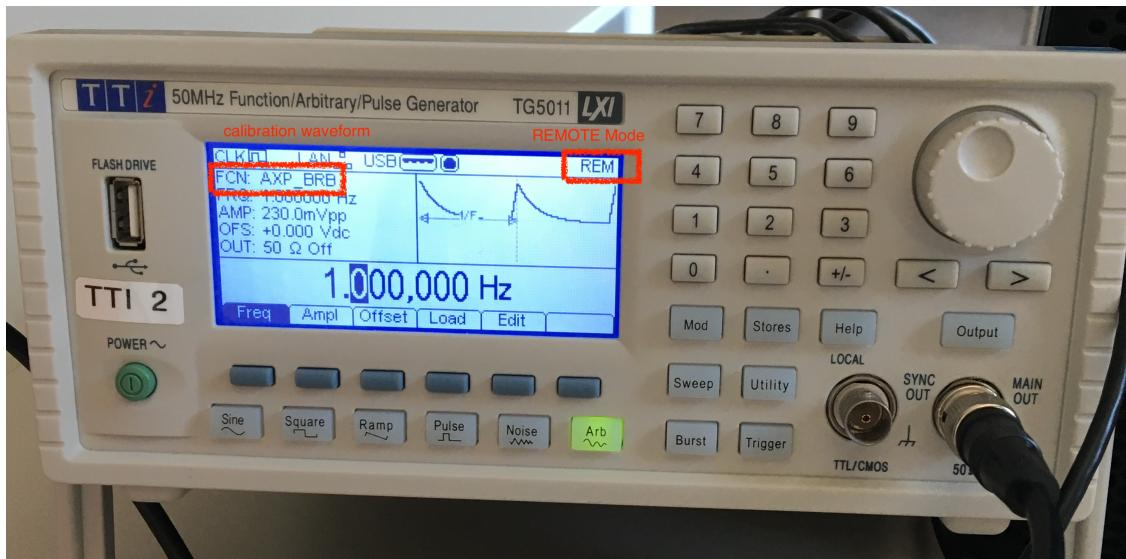

Figure 2: The display as it should look like during the calibration. The BURST button will blink orange each time a new signal is injected
13. while the script is running, verify the signal generator display, see Figure 2